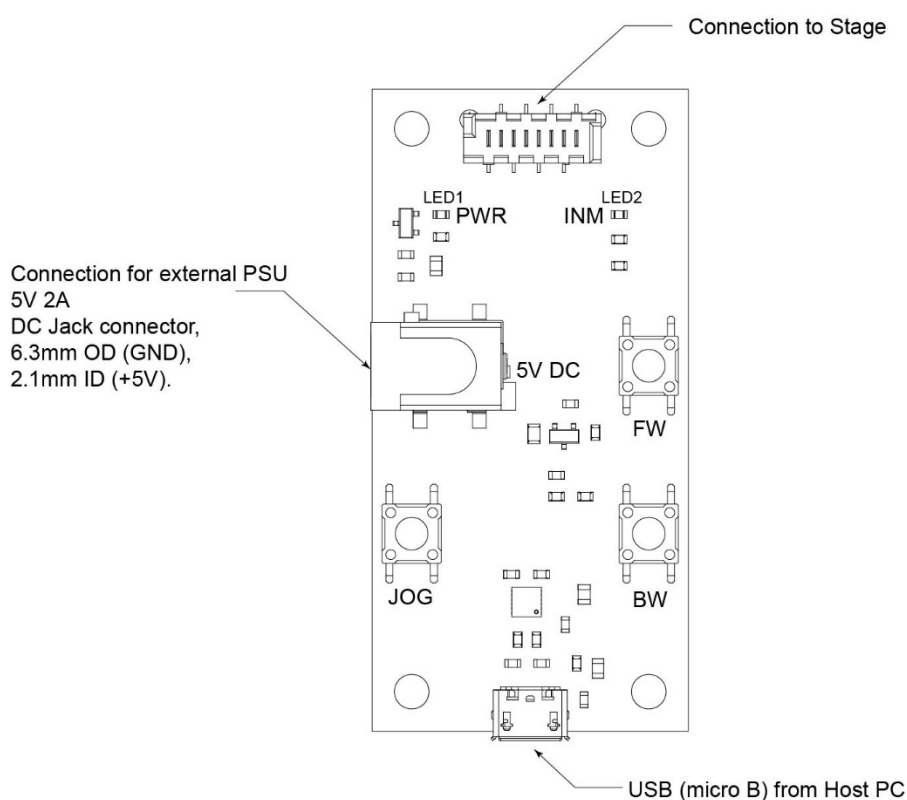

Figure 5 Handset Details
Using the hand-held controller and referencing *Figure 1* and *Figure 5*:
6. Release the BW button. The red INM LED (LED 2 see Figure 5) should be lit briefly.